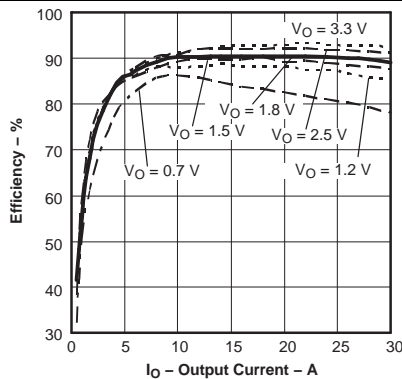
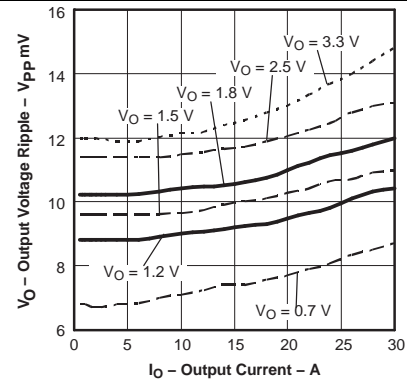
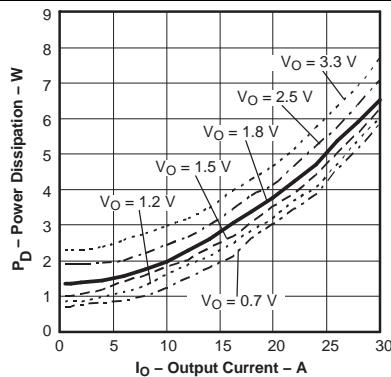

Figure 1. Efficiency vs. Output Current
Figure 2. Output Ripple vs. Output Current
Figure 3. Power Dissipation vs. Output Current
- (11) The electrical characteristic data has been developed from actual products tested at 25°C. This data is considered typical for the converter. Applies to Figure 1, Figure 2, and Figure 3.